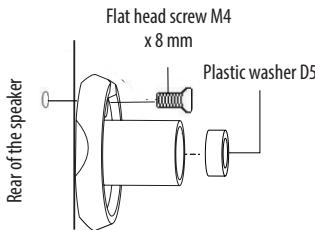

Figure 2
- For some speakers, smaller M4 × 8 mm screws can be used, which are inserted into the hole above the center of the mounting post (see Figure 2).